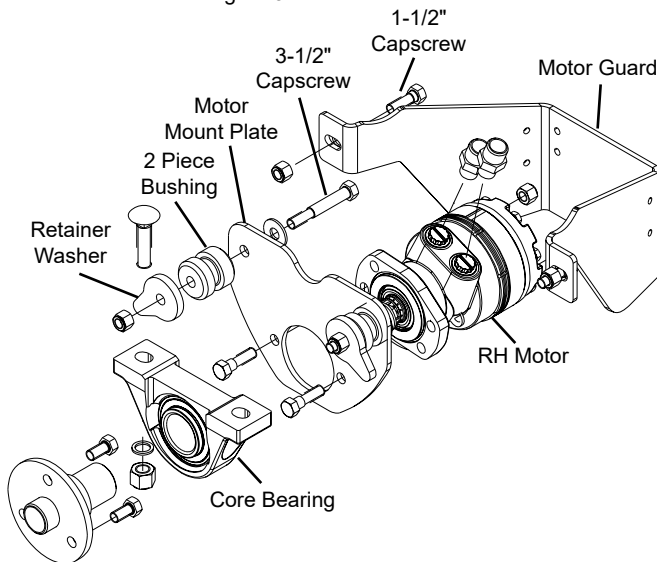

Figure 4
3. Once this adjustment is set, it can be confirmed by running the unit for about 30 seconds in the down position while stationary. Stop the broom and back the unit away. The 'cleaned' (contact patch) should be 2-4" wide for the entire length of the broom (see Figure 4).